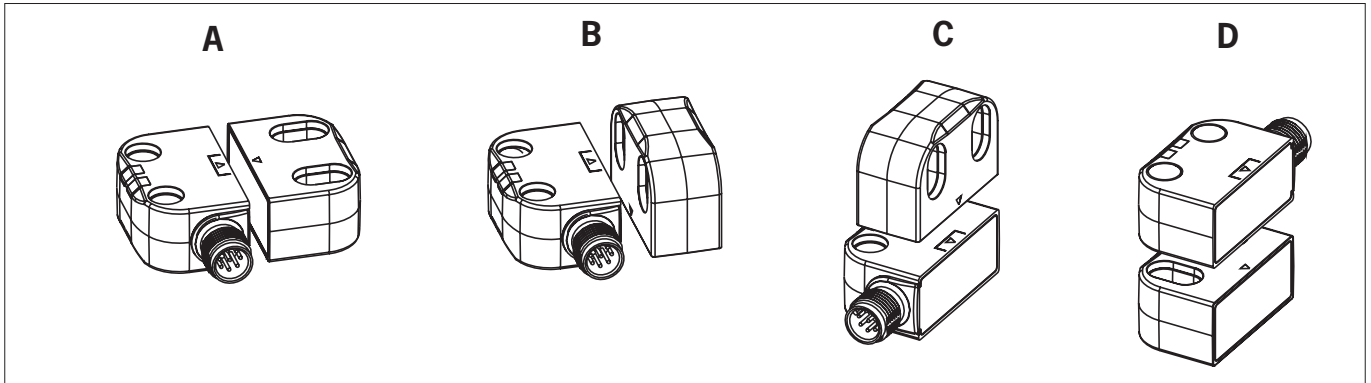
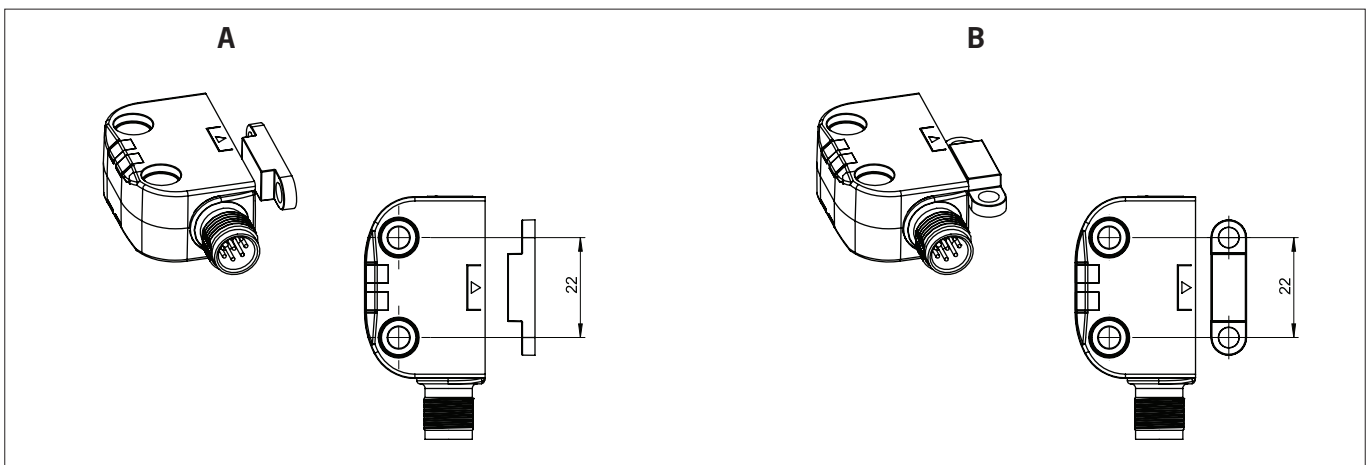

Fig. 1: Permissible installation positions for actuators CES-A-BTN-C07-... and A-FLX-C07-...: observe direction of arrow on the device.
Fig. 2: Permissible installation positions for actuators A-C11-01-... and A-FLX-C11-05-...
- › Observe permissible installation positions (see Fig. 1 and Fig. 2).